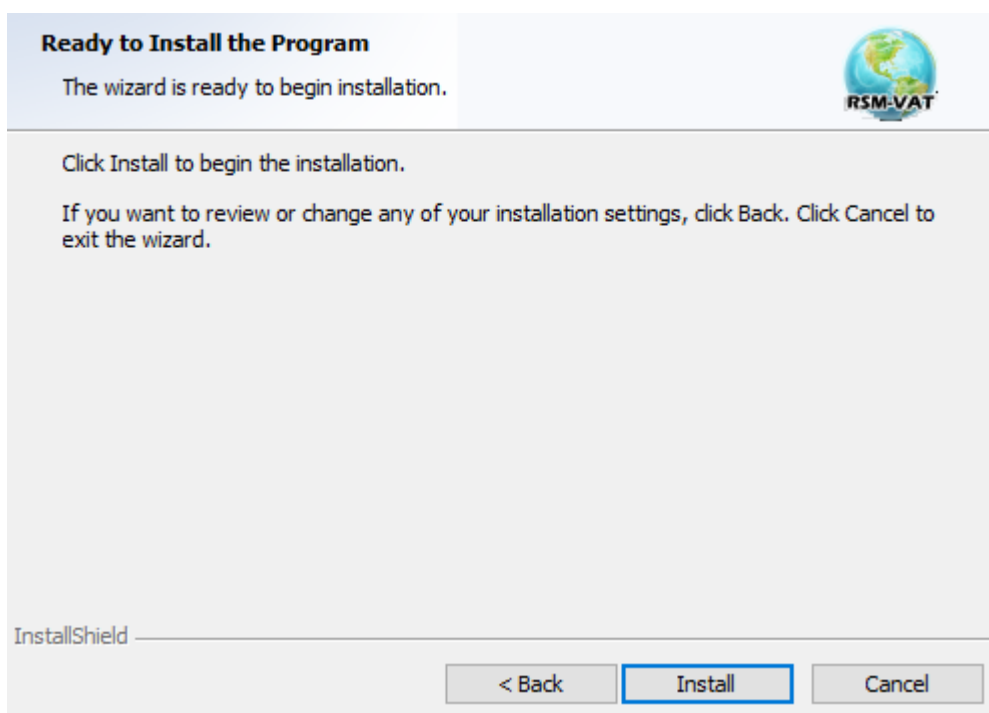

Fig. 3 Ready to Install
- Click the “Next” button, it will show the “Ready to Install” window as shown in Fig. 3.